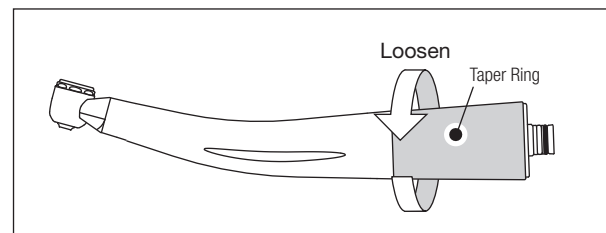

Fig. 9
- Loosen and Remove the Taper Ring at the rear of the handpiece. (Fig. 9)
- Remove the handpiece from the coupling and loosen the Taper Ring to remove.(Fig. 9)